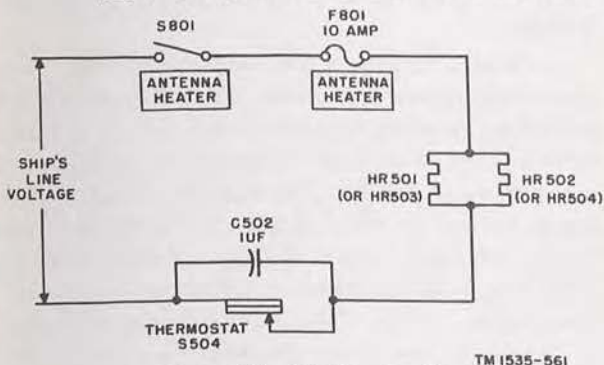

Figure 82. Heater circuit.
- (2) The supply line voltage is then fed through the two sets of contacts of ANTENNA MOTOR switch S802, fuse F802, and ON-OFF switch S503 to antenna drive motor B502, which causes the antenna horn and reflector to rotate.
c. *Heaters* (fig. 82). To keep the oil in the antenna pedestal fluid in the coldest weather, resistors HR501 and HR502 are connected across the ship's supply through ANTENNA HEATER switch S801 and ANTENNA HEATER fuse F801 and thermostat S504. The thermostat keeps the temperature in the pedestal between 40 and 45° by a bimetallic strip. When the temperature reaches 45°, the bimetallic strip bends sufficiently to open a pair of contacts that remove the supply voltage from the heaters. When the temperature cools to 40°, the bimetallic strip returns to its original position and closes the contacts, thus re-supplying voltage to the heaters.